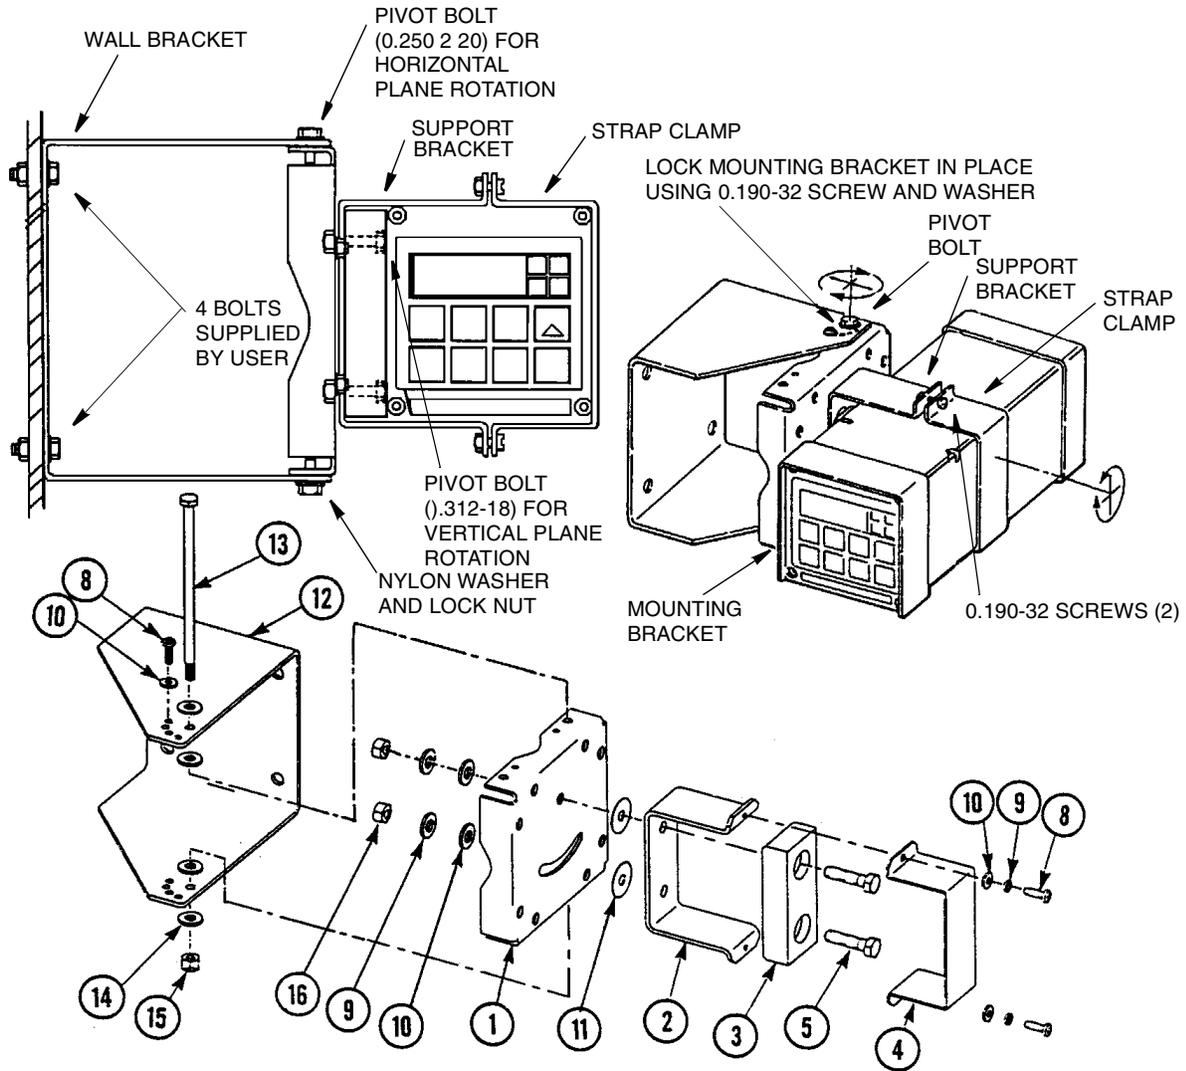

Figure 8. Metal Enclosure - Movable Mount
2. Referring to Figure 8, use wall bracket (12) as template for drilling four holes into mounting surface. Notice that the holes in the wall bracket are 9.53 mm (0.375 in) in diameter.
3. Attach wall bracket (12) to surface using four bolts, washers, and nuts.
- a. Place hex bolts (5) through spacer (3) into support bracket (2).
- b. Slide nylon washers (11) over bolts (5).
- c. Slide bolts through universal mounting bracket (1) and fasten assembly finger tight with hardware designated 9, 10, and 16.
5. Slide Analyzer into support bracket and slide strap clamp (4) onto Analyzer. Using two screws, nuts, and washers, attach strap clamp to support bracket to secure Analyzer.